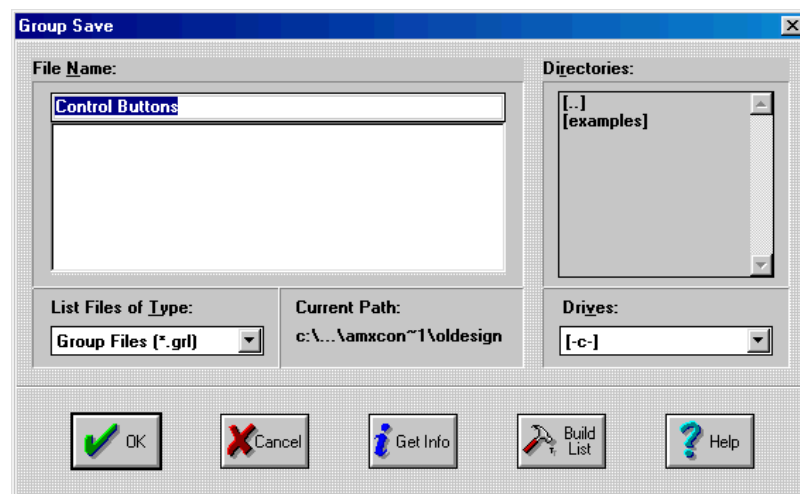

FIG. 14 Group Save dialog
2. Click Group > Save to open the Group Save dialog (FIG. 14).